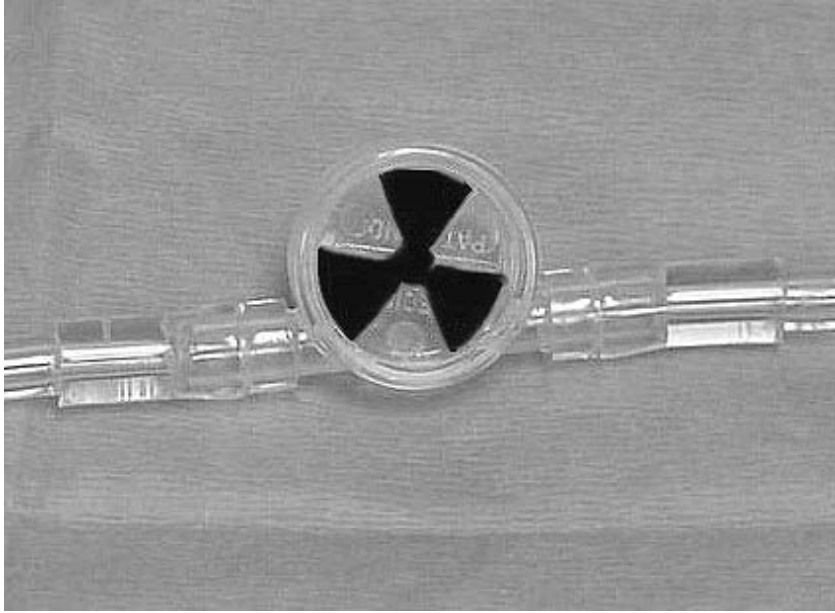

Figure 4.53. Inline Flow Indicator
9. Once treatment has begun, confirm that fluid is flowing through the tubing circuit by observing the rotation of the inline flow indicator (see Figure 4.53). With the Surface Start-Up Kit, it may take approximately 5 minutes for the pinwheel to start spinning. If the flow indicator does not rotate freely during patient treatment, inspect the entire tubing circuit for kinks or other restrictions to flow. Tapping on the flow indicator will liberate any trapped air bubbles and return them to the fluid bag.